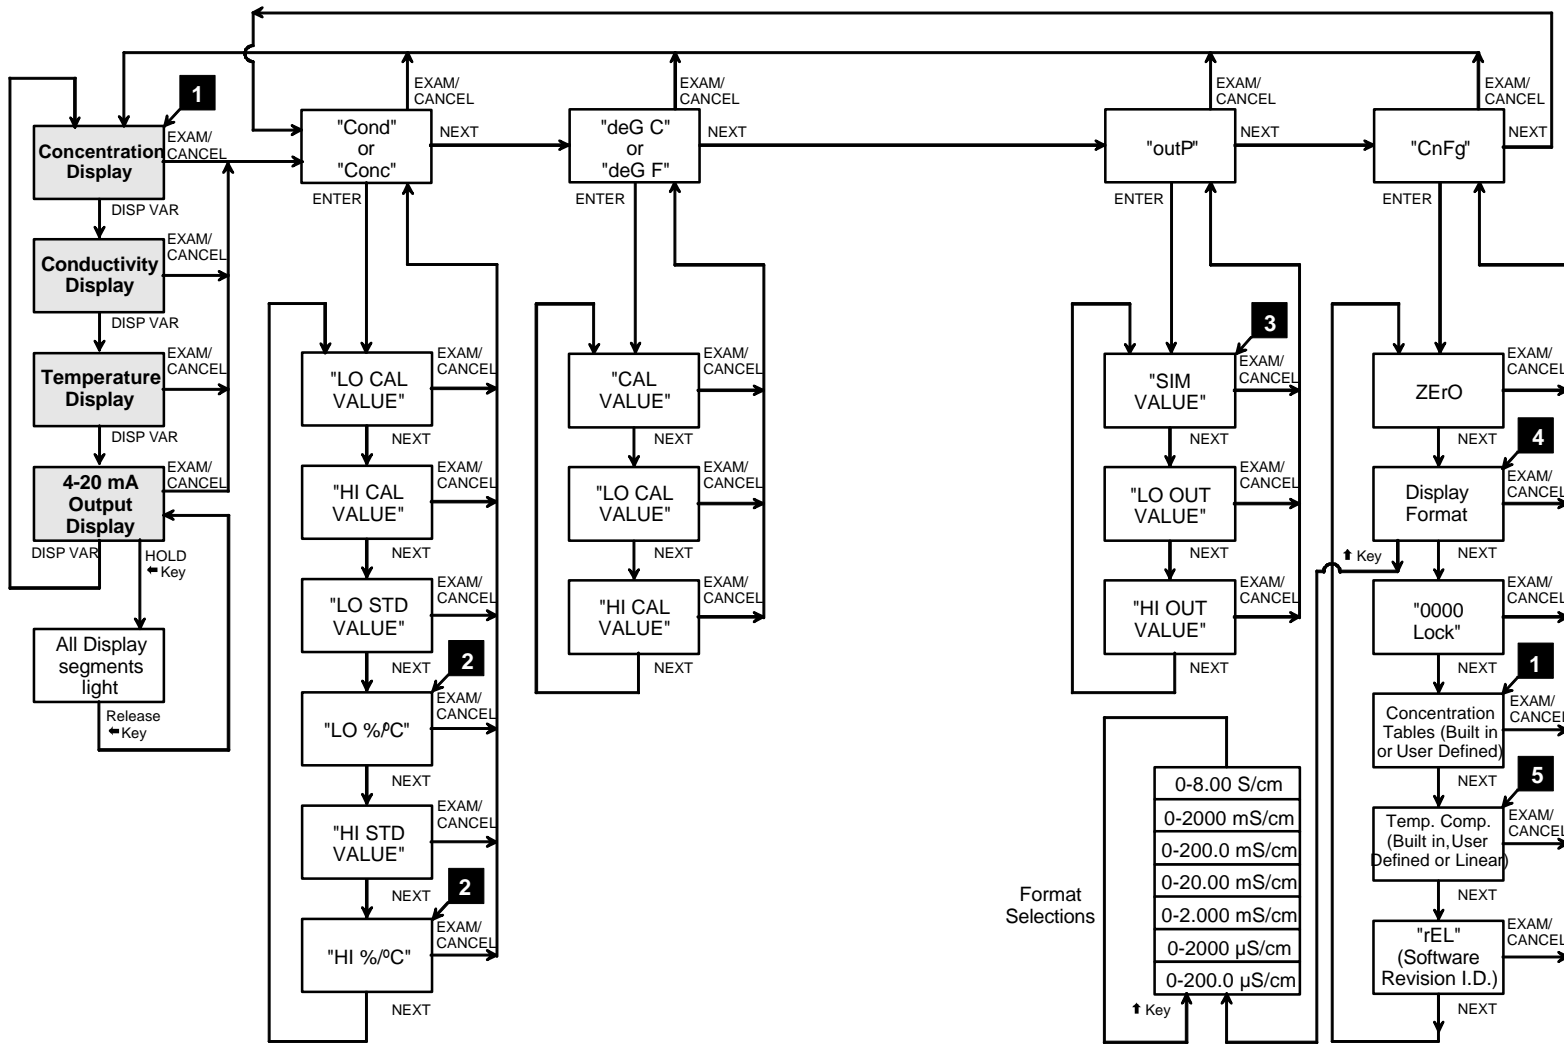

FIGURE 3-3 Display Modes and Callup Chart of Setup Variables
Figure 3-3 on the following page shows the four measured variable display modes (shaded boxes at top left of chart), the four menus of setup variables (across top of chart), and the callup order of the setup variables within each menu. Depending on selected slide switch settings, specific setup variables are not displayed and do not apply (see footnotes at bottom of chart).
3. Press **NEXT** key once to access the display format setup variable (display indicates one of the format selections shown in Figure 3-3).